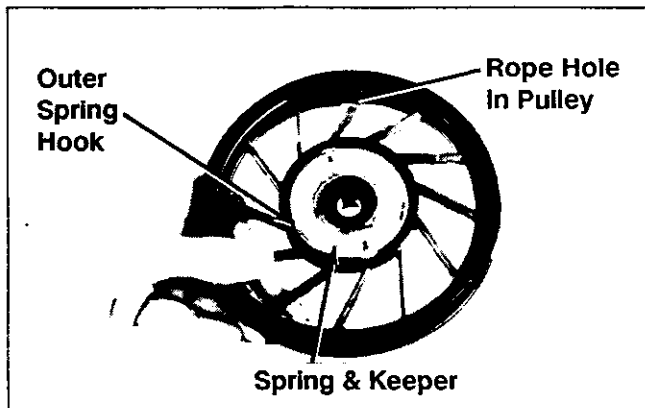

Figure 7-8. Position Of Spring And Keeper In Pulley.
- Note the position of the spring and keeper assembly in the pulley. See Figure 7-8.
- Make sure the spring is well lubricated with grease. Place the spring and keeper assembly inside the pulley (with spring towards pulley). See Figure 7-8.